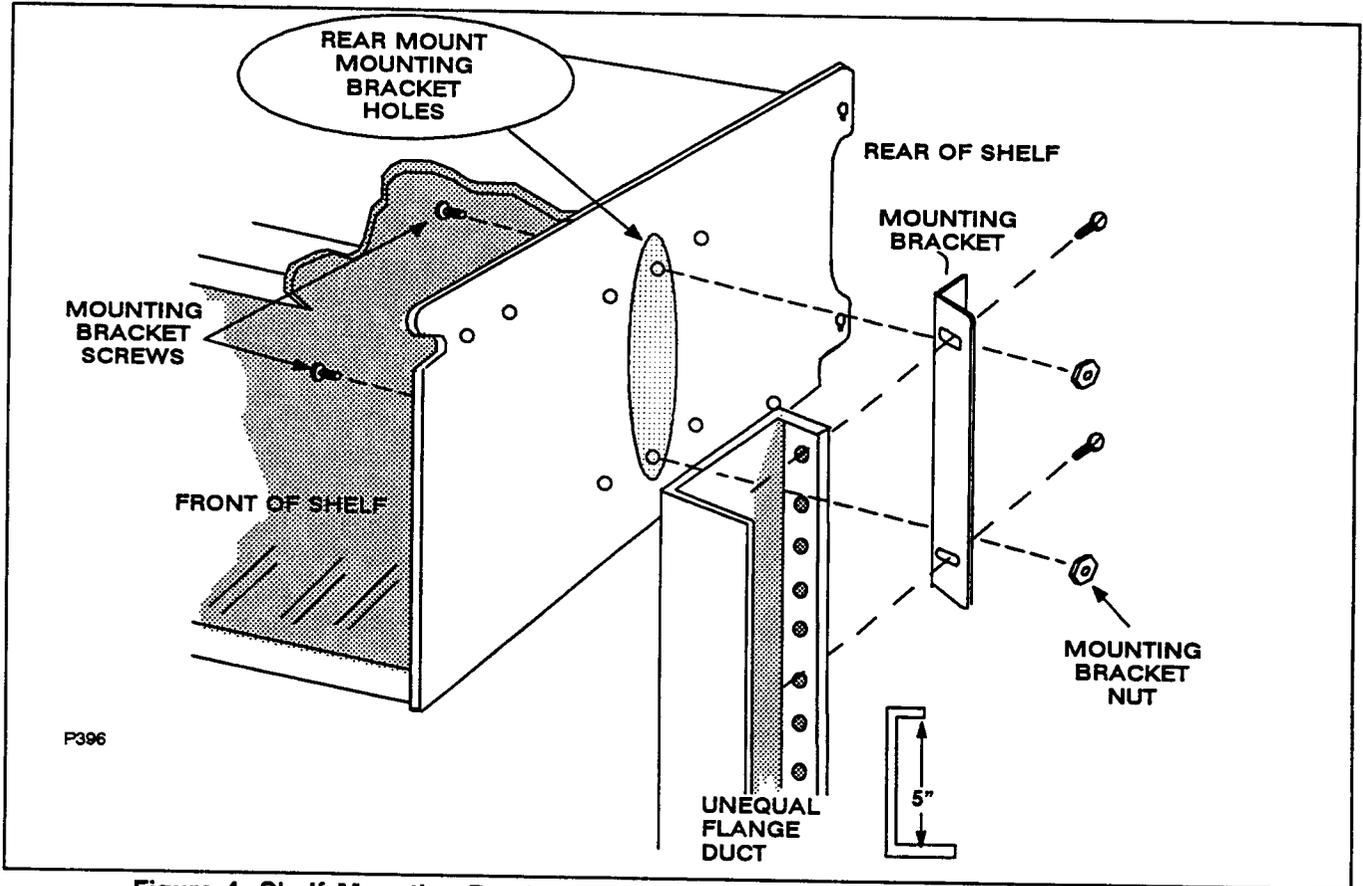

Figure 4. Shelf Mounting Bracket Positions for Uneven Flange Rack, Rear Mount
- Position one of the mounting brackets at the second set of holes (Figure 4). The flange of the bracket is toward the front of the shelf.